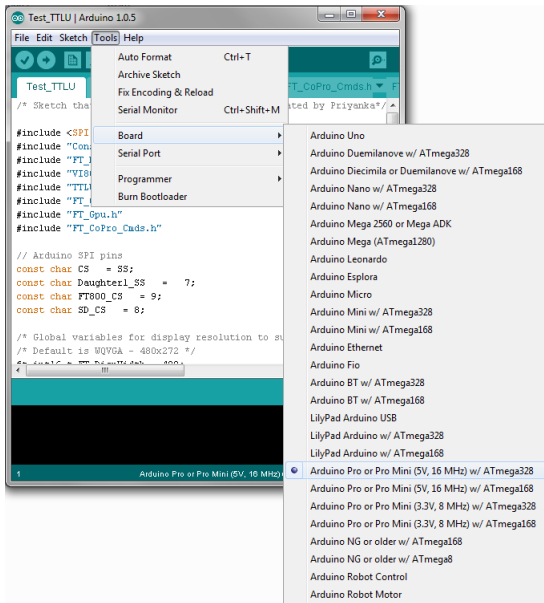

Figure 4.1 Select Board
- Select the Tools->Board-> Arduino Pro or Pro Mini(5V, 16MHz) w/ATmega328 as shown in Fig 4.1.